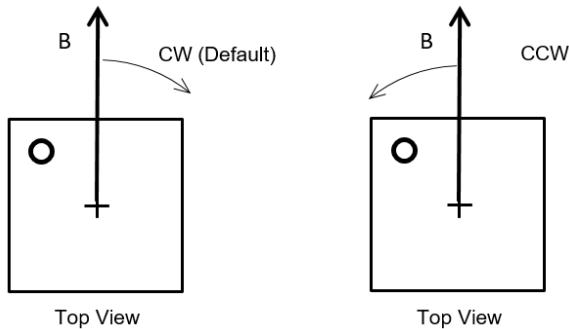

Figure 18: Positive Rotation Direction of the Magnetic Field
By default, when looking at the top of the package, the angle increases when the magnetic field rotates clockwise (CW) (see Figure 18 and Table 10).